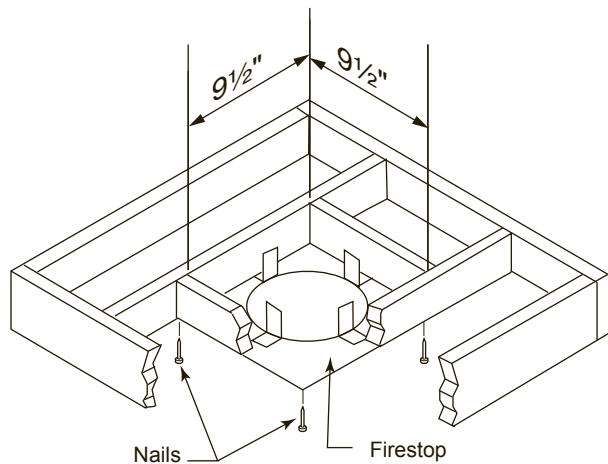

Figure 24 -
1. Cut a 9½" (241 mm) square hole in the ceiling using the locating hole as a center point. The opening should be framed to 9½" x 9½" (241 x 241 mm) inside dimensions as shown in Figure 24 using framing lumber the same size as the ceiling joist. If the area above the ceiling is an insulated ceiling or a room, nail firestop from the top side. This prevents loose insulation from falling into the